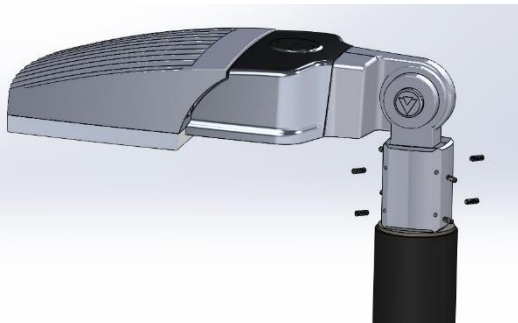

Fig. 2
- Orient the luminaire in the desired position and tighten 1/4-20 set screws to 6 ft-lb (Fig. 2).